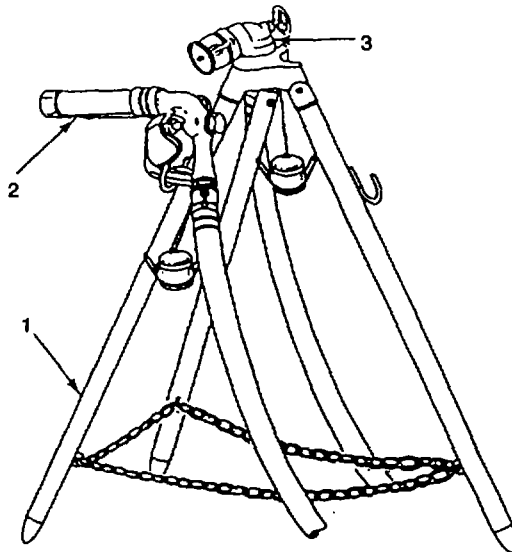

Figure 1-6. Nozzle Stand Assembly
- (7) **NOZZLE STAND ASSEMBLY (1, Figure 1-6).** Collapsible tripod. Provides a place to support manual disbursing station nozzles when they are not being used.
- (8) **NOZZLE (2).** Used to fill 5-gallon cans, canteens, etc.
- (9) **ELBOW VALVE (3).** Used to fill tank trucks, tank trailers, etc.